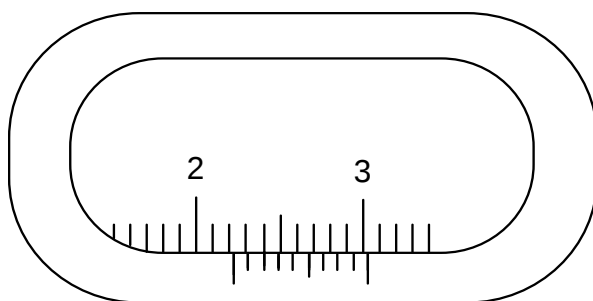

Figure 2-4. Example of a reading of a vernier caliper.
2. Figure 2-4 shows a vernier caliper scale set to a particular reading. What is the reading of the scale? Reading = 2.22 cm